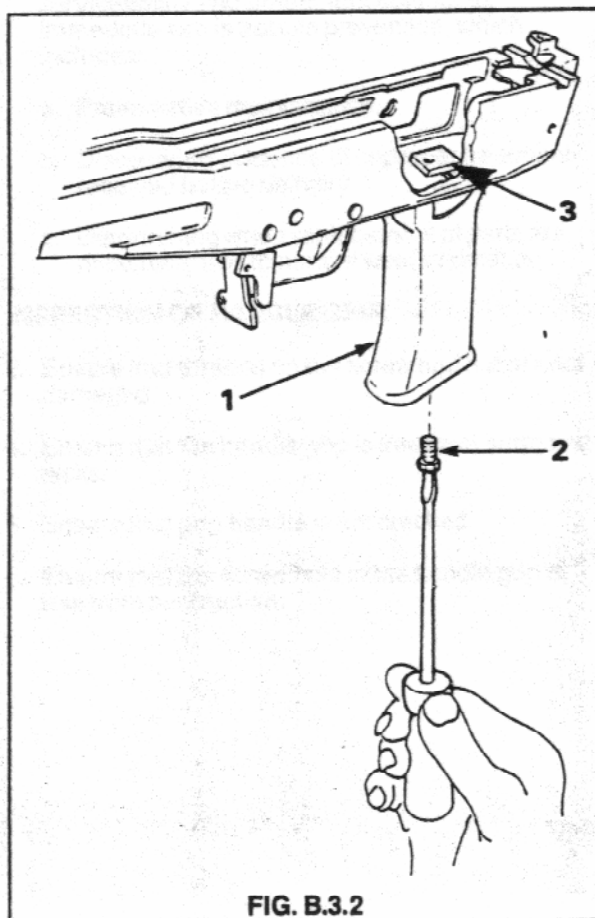

FIG. B.3.2
2. Unscrew screw located inside grip and remove grip from receiver. Remove nut from inside of receiver. See Fig. B.3.2.